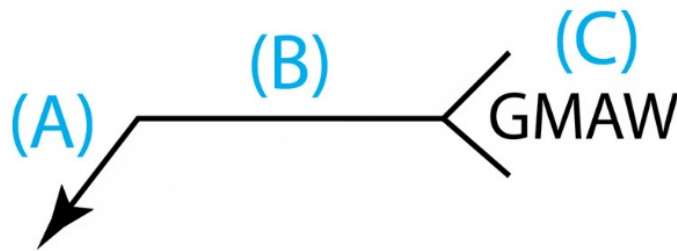

Figure 8: Basic AWS Weld Symbol
- (A) The leader line – the leader line is similar to other components of the drawing using leader lines. It is drawn at any necessary angle, although angles less than 15 degrees or greater than 75 degrees can lead to confusion and should be avoided. (See Figure 8 – A)
- (B) The reference line – The reference line includes all the welding details which are placed above or below this line. (See Figure 8 – B)
- (C) The tail – the tail is used to designate specific welding processes to be used on the part joint. Additional reference information is placed within the tail. (See Figure 8 – C)